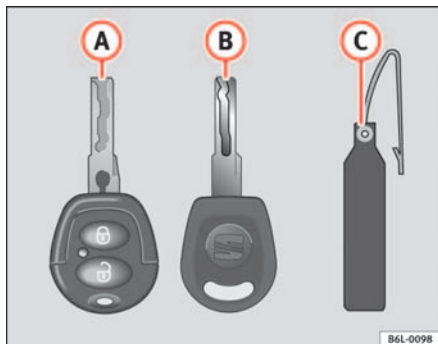

Fig. 45 Set of keys
- one remote control key ⇒ fig. 45 (A) with folding key bit*,
- one key without remote control (B),
- one key tab (C) with the key number.
Spare keys cannot be issued without the key number on the key tab ⇒ fig. 45 (B). Therefore: